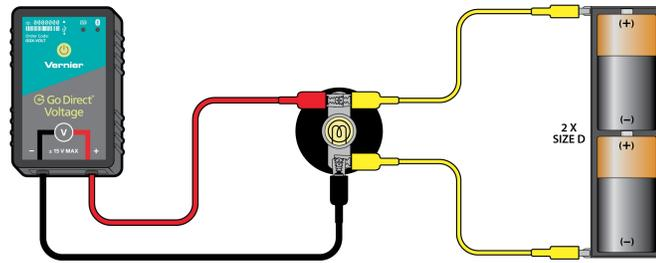

Figure 2
- a. Insert the two D-cell batteries into the battery holder (see Figure 2).